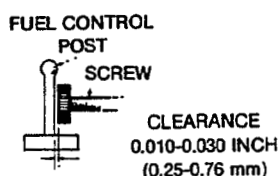

FIGURE 65. FUEL SOLENOID ADJUSTMENT
6. Adjust fuel solenoid plunger so that a 0.010 to 0.030 inch (0.25 to 0.76 mm) clearance exists (see Figure 65) between the plunger adjustment screw and the fuel control arm with the solenoid in de-energized position. To adjust the plunger length, hold the plunger and adjust the screw on the plunger lever pin at the fuel shutoff position. Retighten locknut.